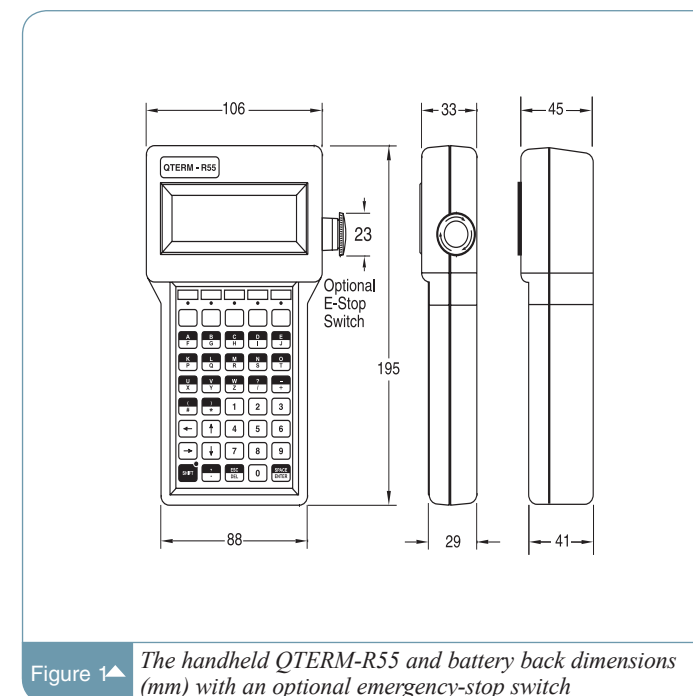

Figure 1 The handheld QTERM-R55 and battery back dimensions (mm) with an optional emergency-stop switch
**HOUSING:** The handheld housing is made from impact-resistant, black ABS and provides NEMA-12/13 level protection. The housing accepts six "AA" alkaline cells. The unit includes a regulator and an external power switch. The dimensions of the unit are shown in Figure 1.